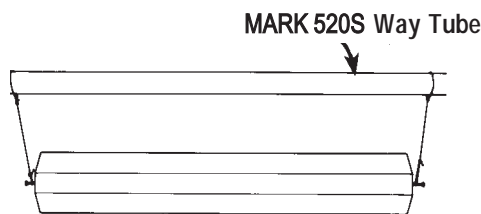

Figure C-41
2. To do this, drive a standard 8-penny nail straight into each center. Use suitable string to hang the stock in a level position from the front bench tube of the MARK 520S or a saw horse. The ends of the string should be looped around the nails. See Figure C-41. Gravity will pull the heavy side down. Use a jointer, bandsaw or hand plane to remove no more than 1/32" at a time from the heavy side until the stock remains stationary when rotated to three positions 90 degrees apart.